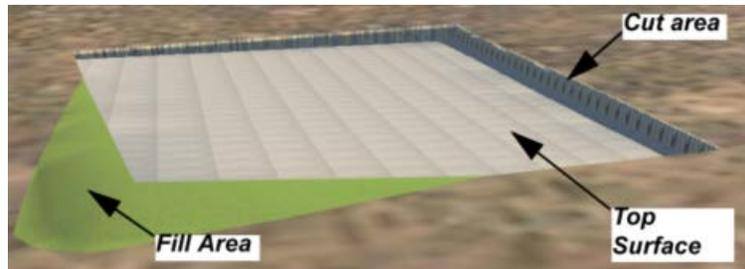

Figure 7
- The top surface of a land area is automatically flattened, as shown in Figure 7. A coverage drapes on the surface until the terrain is manually shaped.
- Land areas enable you to control the display of cut and fill areas separately. Figure 7 shows a land area with a 3:1 grass material for the fill and a 1:1 stone wall material for the cut.